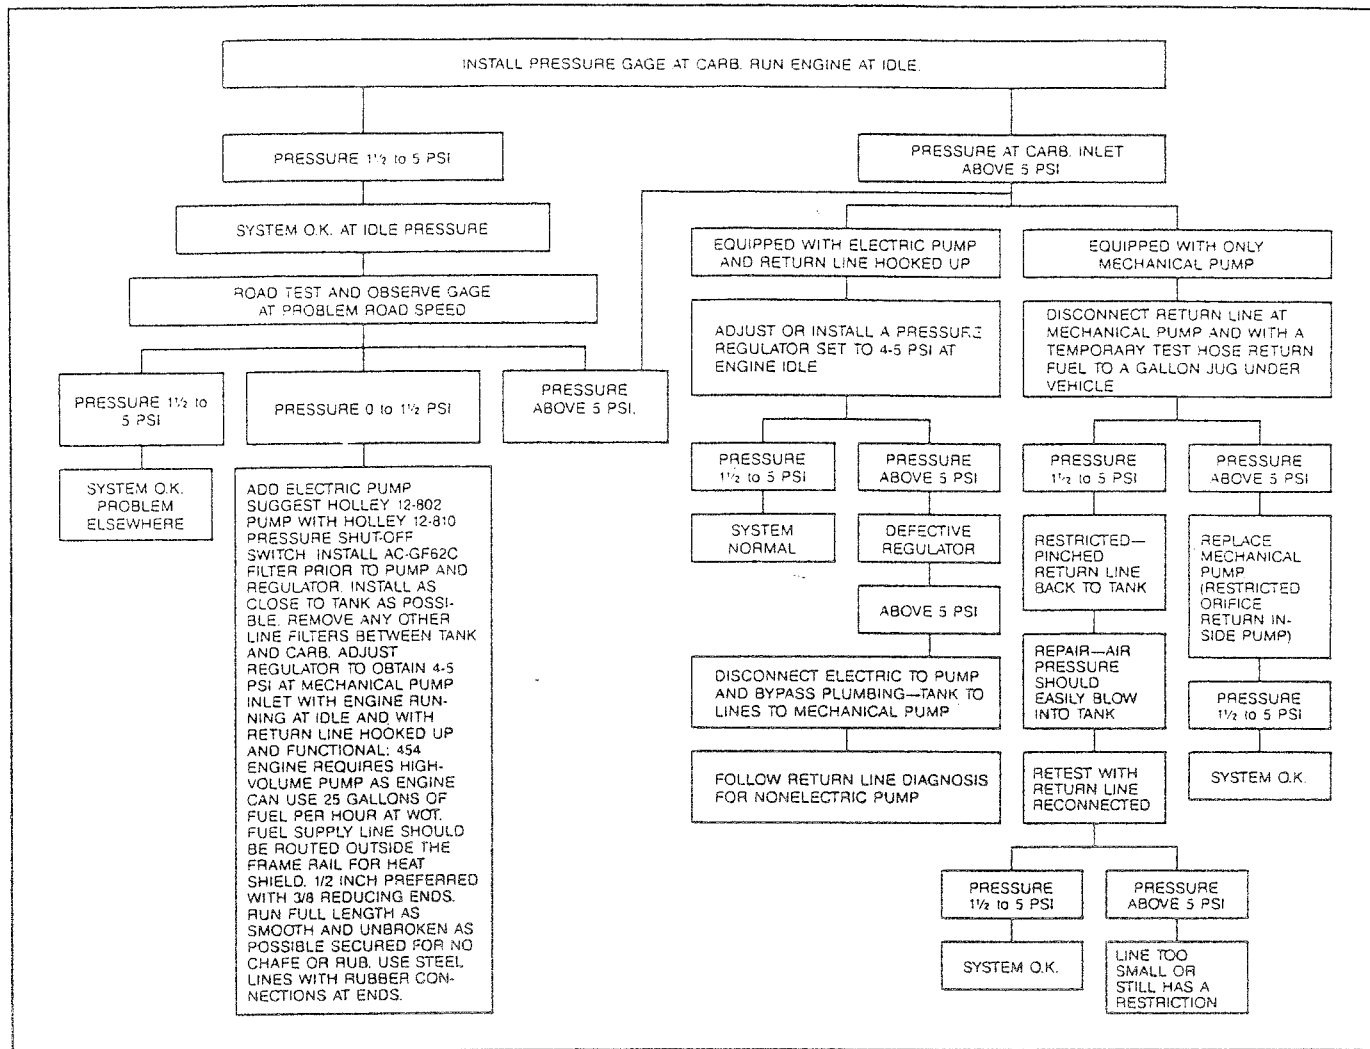

Figure A7-6-6 — Pressurized Fuel System Diagnosis Chart
- The fuel requirements for the 454 engine at wide-open throttle are 25 gallons per hour at 2 PSI minimum and 3 PSI maximum. If fuel line lengths or routings create a situation where this cannot be met, an electric pump should be added at the fuel tank to supply fuel to the mechanical pump on the engine. Pressure in the supply line will further reduce the chance of bubbles forming versus a negative pressure situation with a mechanical pump only. (See Pressurized Fuel System Diagnosis Chart in Figure A7-6-6.)